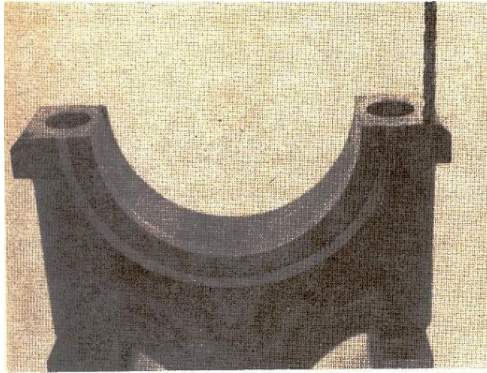

Fig. 1-10. Drill the main bearing cap dowel hole
- ii. Remove the cap. Drill dowel holes. Fig. 1-10. Install the cap and ream the dowel holes to the smallest available over size. Install the dowels in the block.